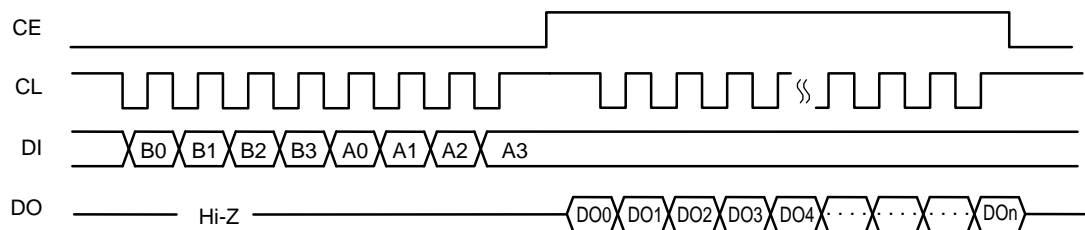

Figure 9.4 Output Timing Chart (Normal high clock. It is necessary to read DO0 with a port.)
- In the output timing shown in figure 9.4, data is allocated so that there are no problems even if the output register DO0 is not read. See the read register table for details.